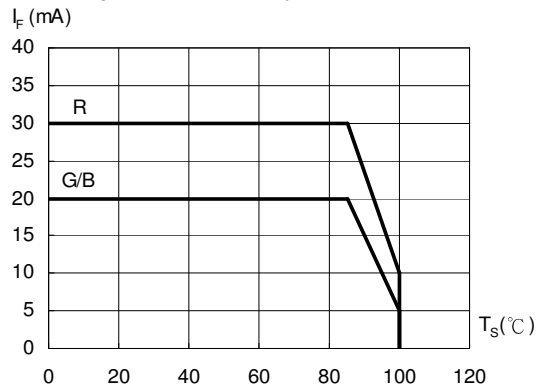

Fig.4 Allowable Forward Current vs. Solder Point Temperature
- Note: 1. Design of heat dissipation should be considered. For the allowable operating current at different operating temperature, please refer to fig 4, page 4.